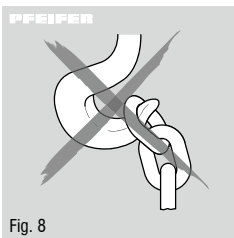

Fig. 8
- Do not load the hook tips (Fig. 8).
The load is lifted by pulling on the hand chain clockwise. Always suspend the load in the centre of the hook. Do not load the hook tips (Fig. 8).